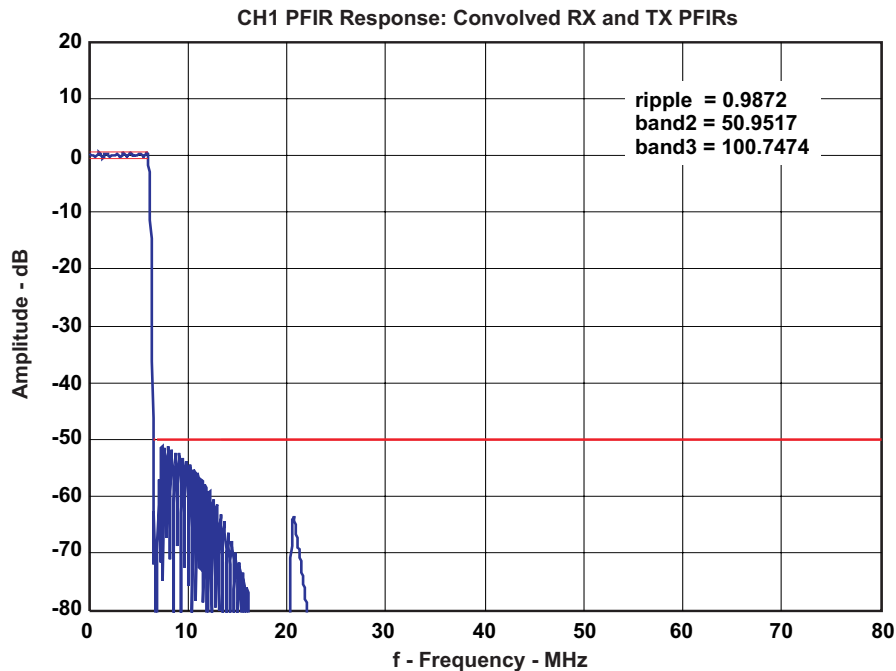

Figure 37. Composite Frequency Response
- Composite DDC filter input to DUC filter output (Figure 37)
Now look at Figure 37, which shows the composite frequency response from DDC input to DUC output. There are three response curves; the composite response of the PFIRs and CIC filters, plus the images from the CIC decimation and interpolation filter.